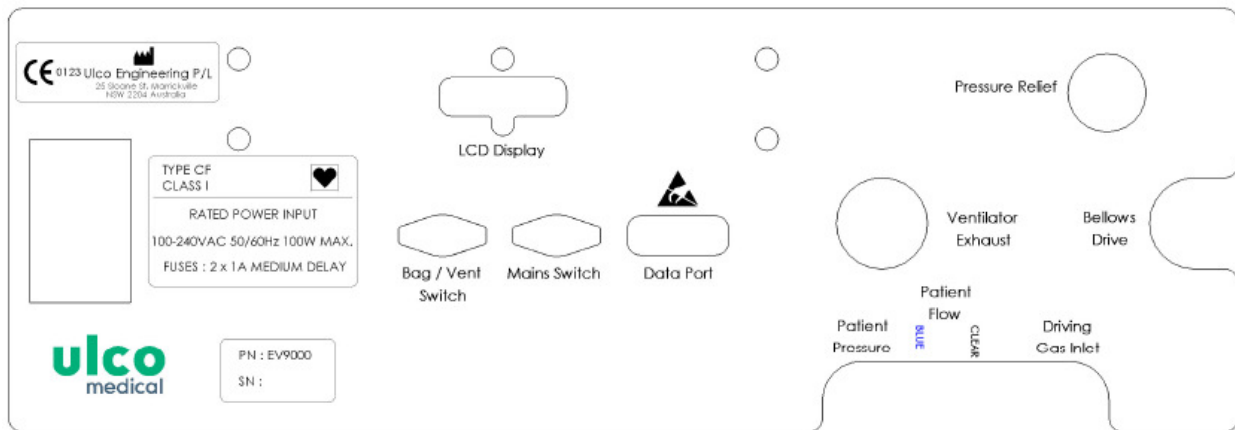

Figure 12: Ventilator Connections
4. Remove the all of the connections shown on the top plate of the ventilator in Figure 12.